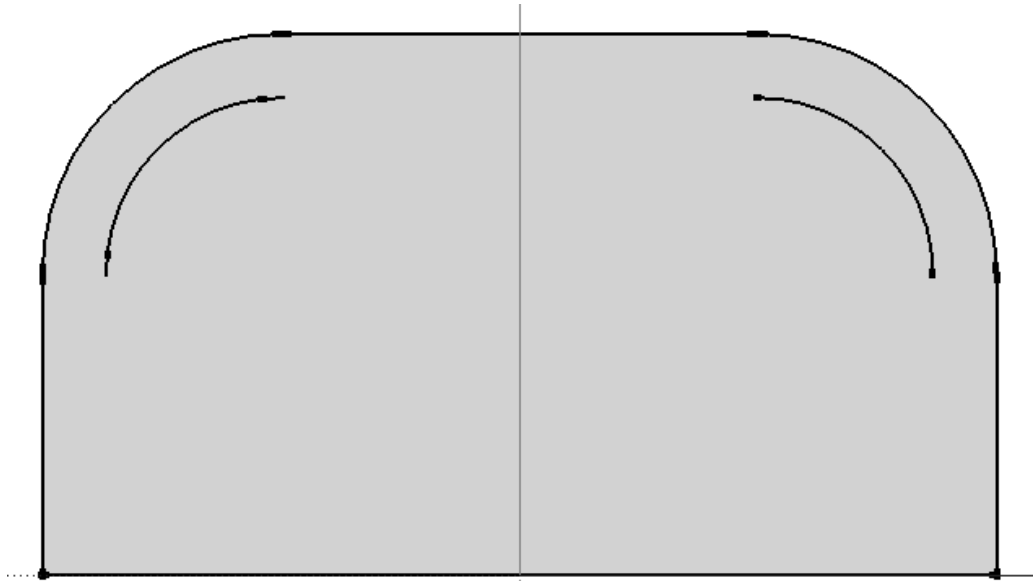

FIGURE 4-2.16 Offset perimeter arcs inward 4 inches
52. Offset the two arcs inward 4" – similar to the rounded chair (Figure 4-2.16).